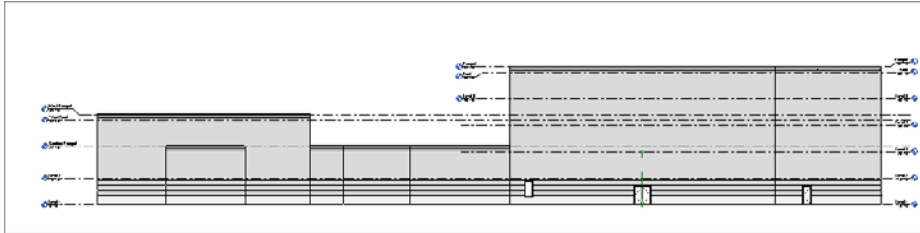

FIGURE 3.31 The final look of the building
8. Go back to the South elevation. Adjust your levels to appear as shown in Figure 3.31.